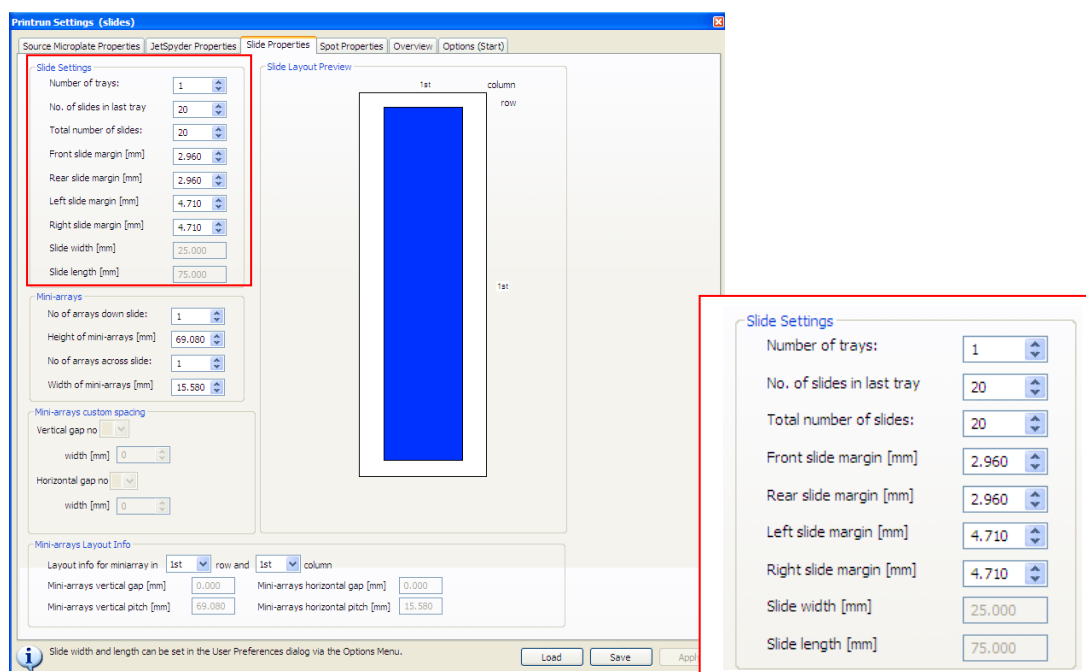

Figure 6-4 The Slide Properties tab-Setting slide margins
- Enter the number of slides using the edit or the spin controls as shown in **Figure 6-4**
- Enter the slide margins using the edit or the spin controls as shown in **Figure 6-4**